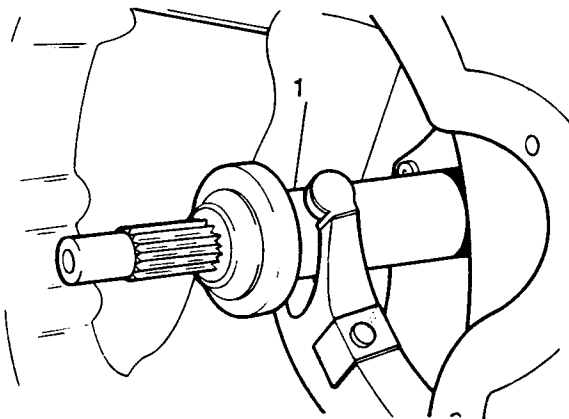

Fig H1.27
(7) Refer to Fig H1.27. Refit the clutch mechanism to the withdrawal bearing and secure with the plastic clip (1).
(8) Refit the gearbox to the vehicle (see Sub-sub-section H1.3, Chapter 1) and refill with the correct grade of oil.